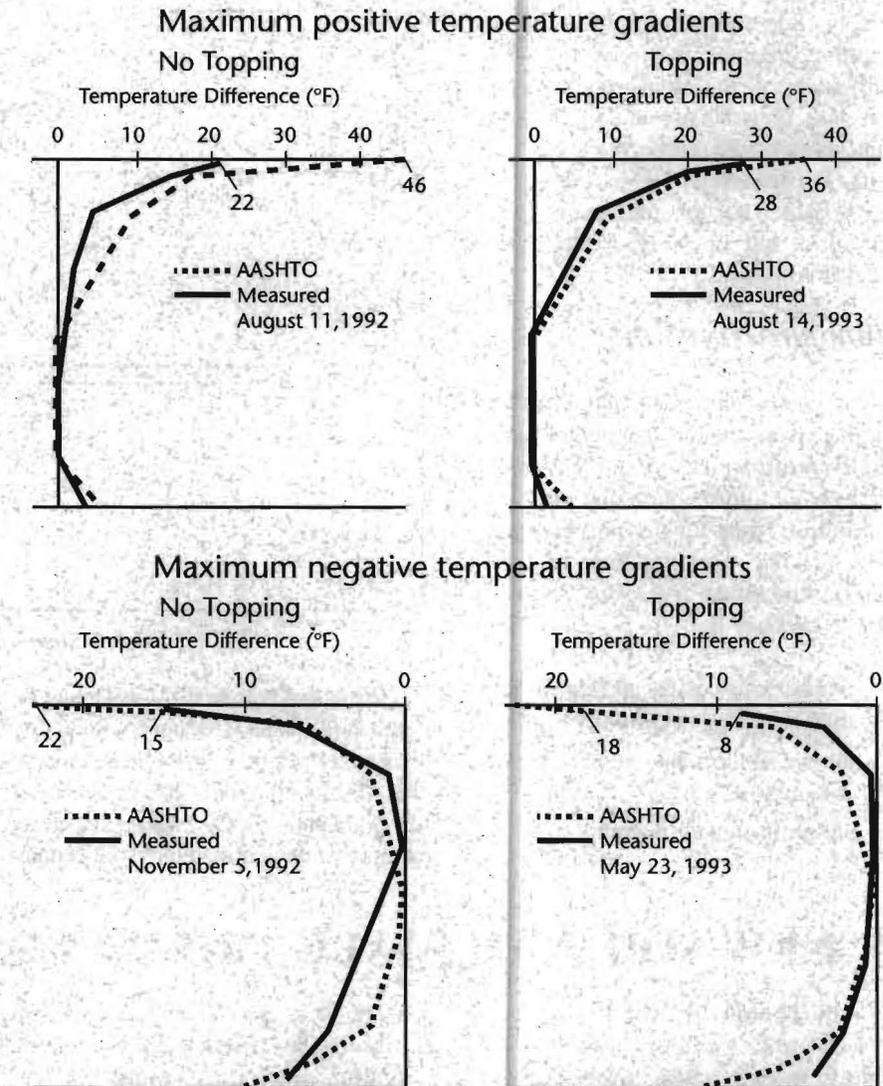

FIG. 11: Maximum positive and negative thermal gradients
*NCHRP design gradient. In fact the top surface temperature difference for the unsurfaced condition never attained more than 50 percent of the NCHRP value. While it might be remotely possible that the design gradient might occur, for the San Antonio "Y" project with the light colored concrete and roughened surface, its occurrence is unlikely. Once the topping was laid the gradients became larger and more closely approached (approximately 80 percent) the design gradient (Fig. 11). The NCHRP and New Zealand design gradients indicate that the gradient should decrease with the addition of a topping, while the current measurements indicate that the opposite is true ....*